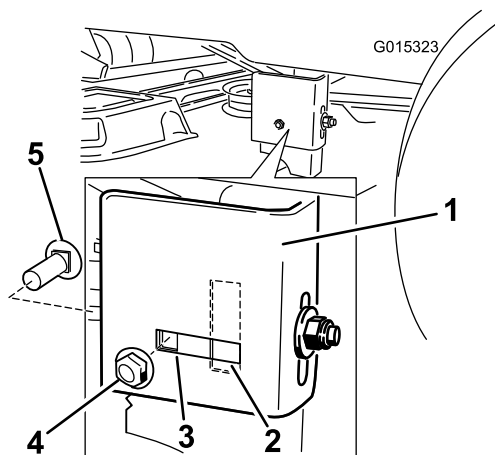

Figure 50
Note: Check if the side carriage bolt is in the fixed or slotted position (Figure 50).
8. If the side carriage bolt is in the fixed position, remove the side carriage bolt and side locking nut from the fixed position and install it into the slotted adjustment position (Figure 50).